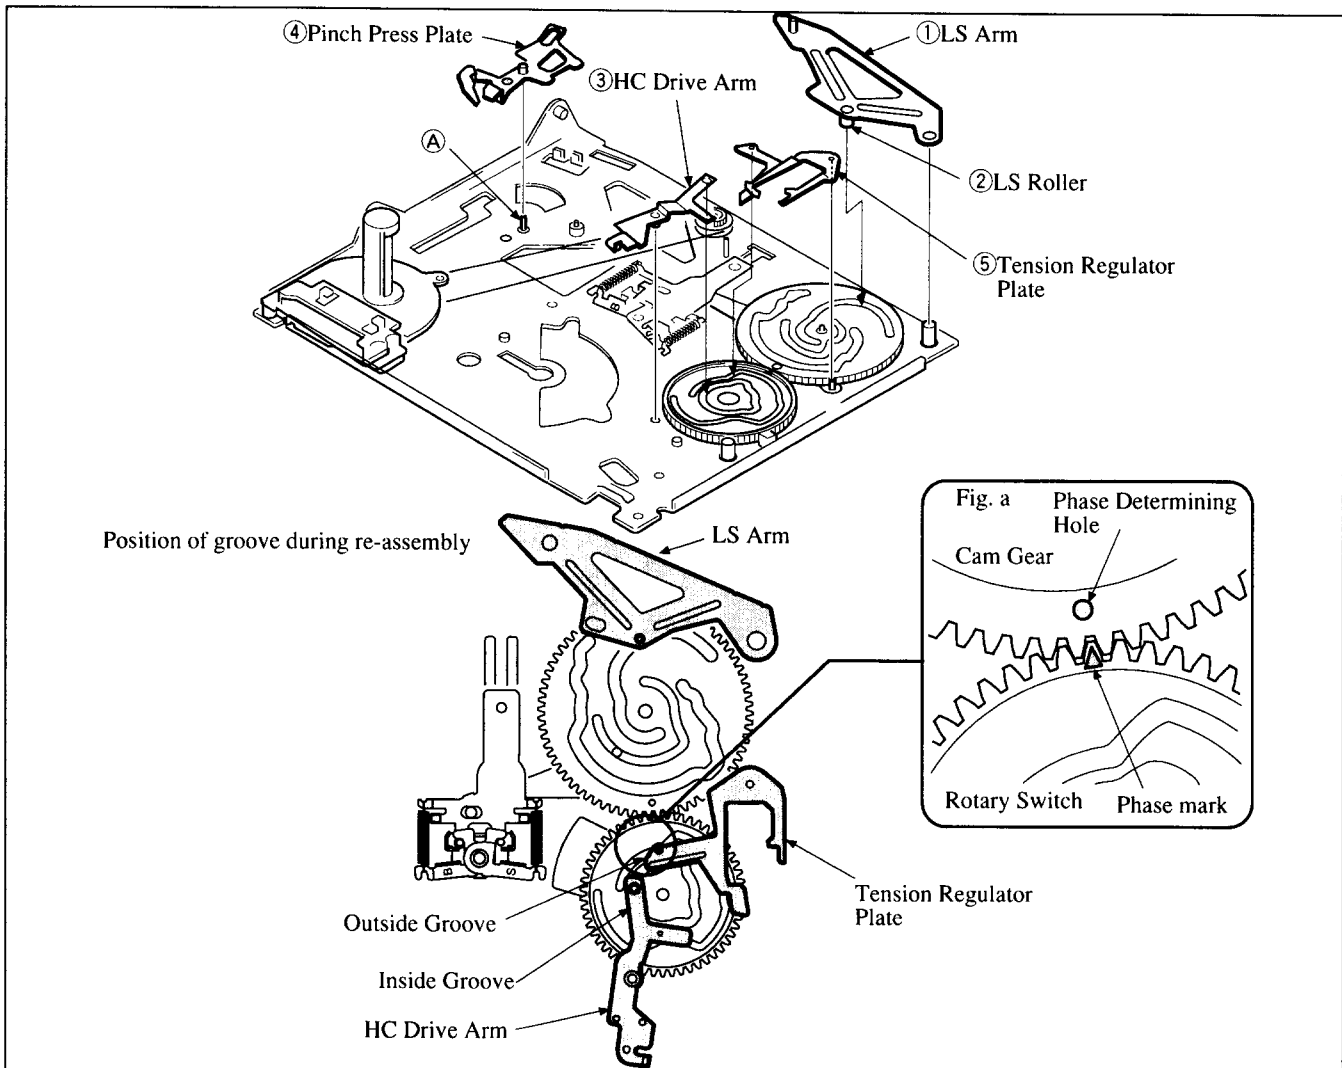

Fig. 19
- 1) Before attaching the Gear A ⑥, coat the Retainer Shaft (E) with grease SG-055G (Ref. No. J-13).
- 3) The HC Drive Arm is easy to drop. Confirm that it is attached referring to Fig. 19.
3-13. LS Arm, HC Drive Arm, Pinch Press Plate, Tension Regulator Plate (Refer to Fig. 19)